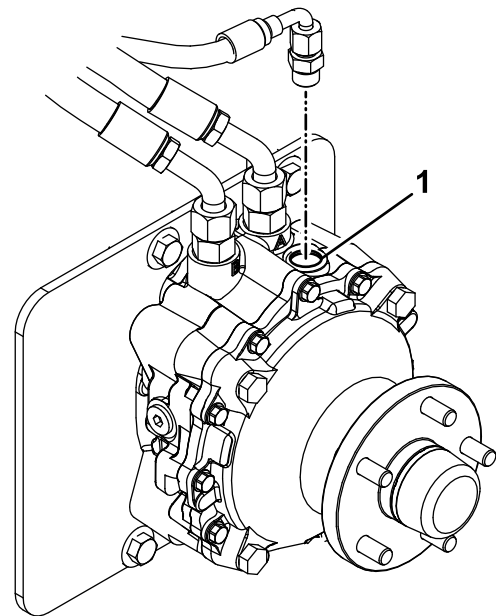

Figure 71
9. Remove the fill-port plug on the top of each wheel motor (Figure 71).